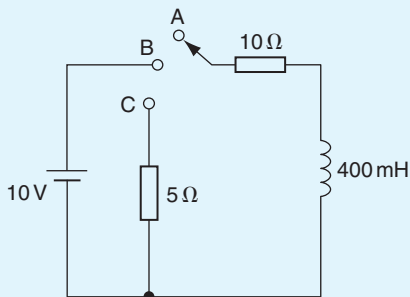

Figure 18.15
- In the inductive circuit shown in Fig. 18.15, the switch is moved from position A to position B until maximum current is flowing. Calculate (a) the time taken for the voltage across the